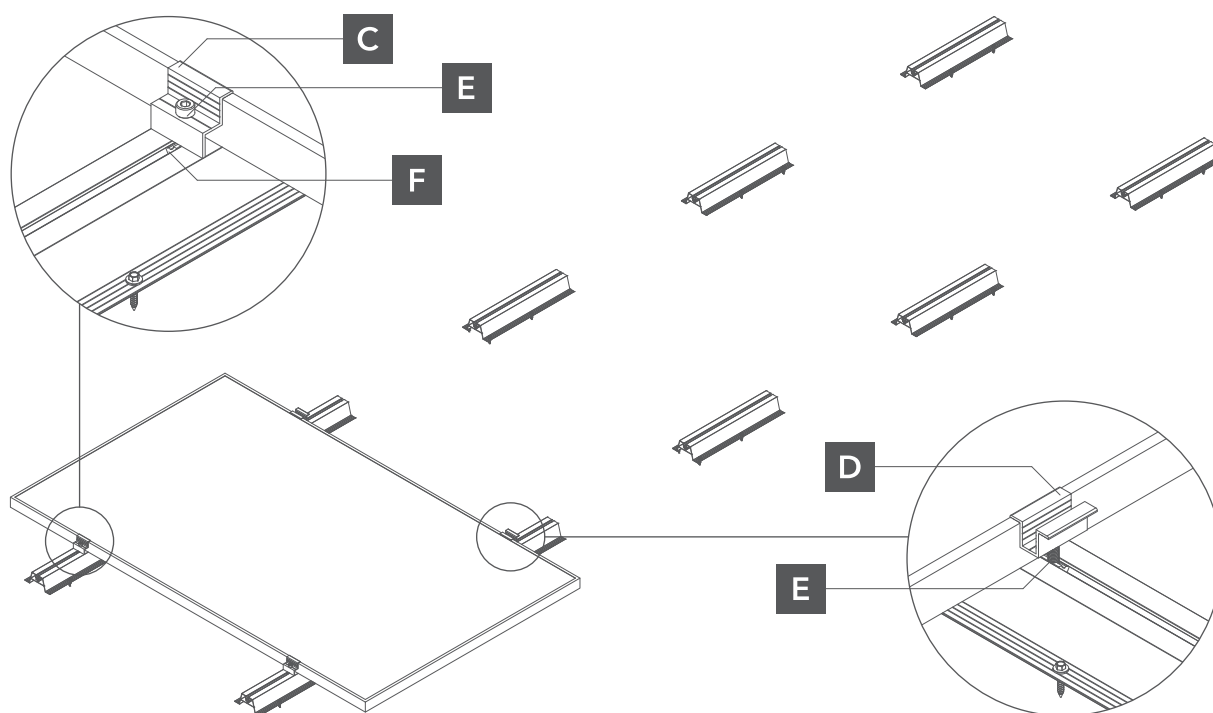

Fig. 5. attachment of the module to the trapezoidal girder.
- 4** We place the first outer photovoltaic module on the trapezoidal girders and fasten the edge clamps at the same time. The edge clamps are fixed with M8 Allen screws and M8 slot nut. Then we mount the middle clamps without fixing them. After placing more modules, we can fix the middle clamps. One should repeat this step until all modules are mounted in the row (Fig. 5).